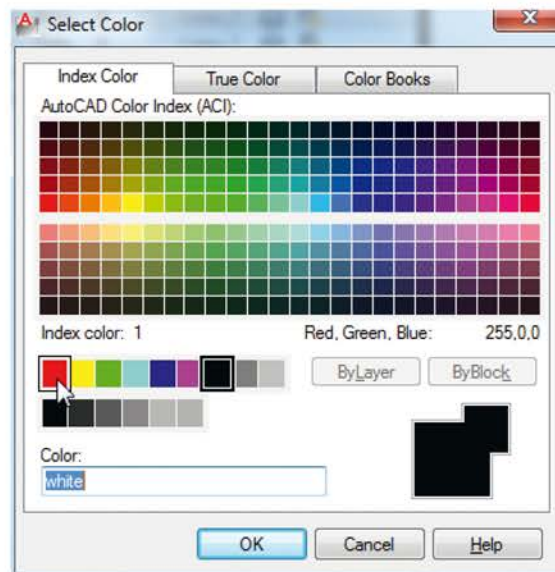

Fig. 5.16 The Select Color dialog
4. Click one of the squares under the **Color** column of the dialog. The **Select Color** dialog appears (Fig. 5.16). *Double-click* on one of the colours in the **Index Color** squares. The selected colour appears against the layer name in which the square was selected. Repeat until all five new layers have a colour.